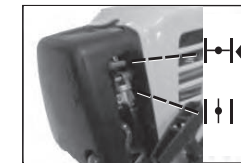

Fig. 9C
3. Move choke lever to CHOKE "I" position.(Fig.9C)